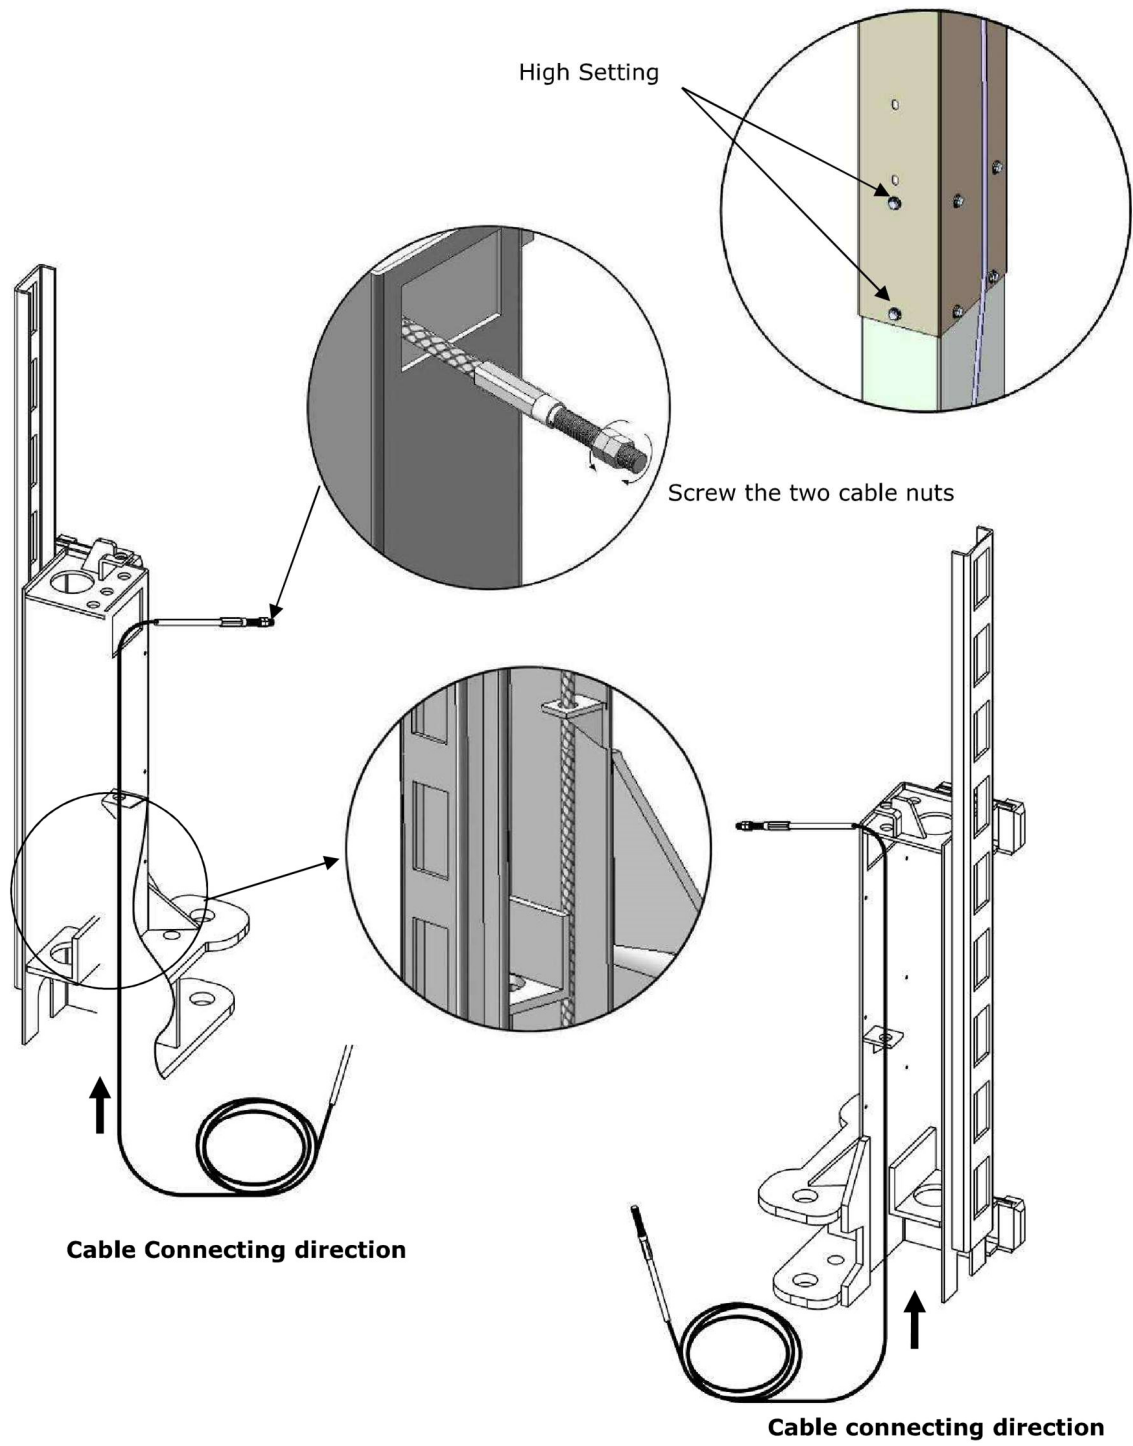

Fig. 23
- 2.1. Cable pass through from the bottom of the carriages and be pulled out from the open of carriages, then screw the two cable nuts (**See Fig. 23**).